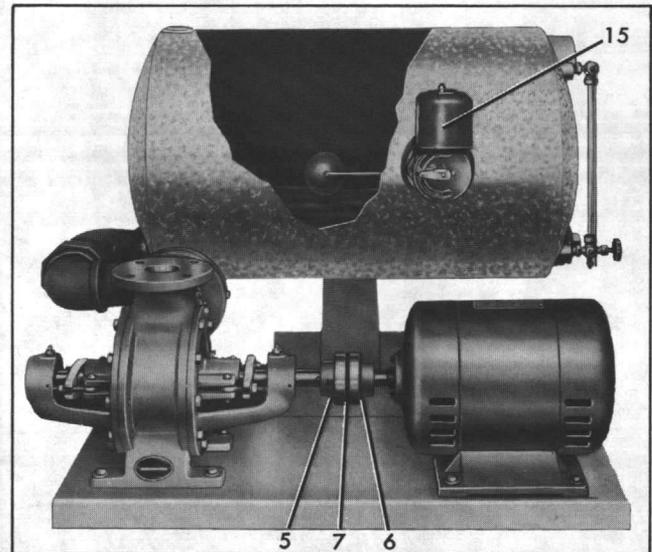

Figure 1. Model 211 (Simplex) Condensate Unit
Your Aurora unit may be disassembled using figures 1 thru 3 along with the text. Although complete disassembly is covered, it will seldom be necessary to completely disassemble your Aurora unit.
- c. Then unthread street elbow (4) from receiver.
5. Loosen flexible coupling halves (5 and 6) by unthreading their setscrews, then slide halves back on pump shaft and free insert (7). (See figure 1.)
6. Remove bolts (8) and washers (9) to lift or hoist pump (10) from baseplate (11).
7. Unthread bolts (12) and washers (13) to free motor (14) from baseplate (11) only if motor is to be repaired.
8. Remove float switch (15, figure 1) or alternator (16) by unthreading it from receiver (17). Plug can be removed, if necessary, from pipe tap on opposite side.
- a. Remove two protector rods (18).
(Refer to figures 1 and 2)